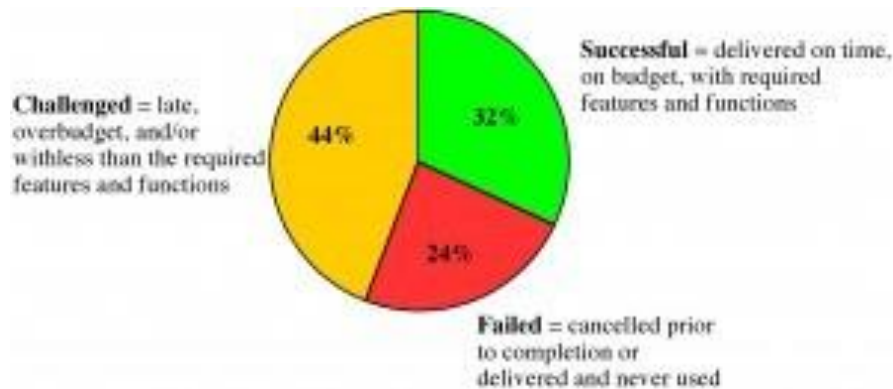

Figure 2.1: Summary of 2009 Standish Group CHAOS report. Chaosreport2009 by Merrie Barron & Andrew R. Barron
In the United States, more than \$250 billion is spent each year on information technology (IT) application development in approximately 175,000 projects. The Standish Group (a Boston-based leader in project and value performance research) released the summary version of their 2009 CHAOS Report that tracks project failure rates across a broad range of companies and industries (Figure 2.1).